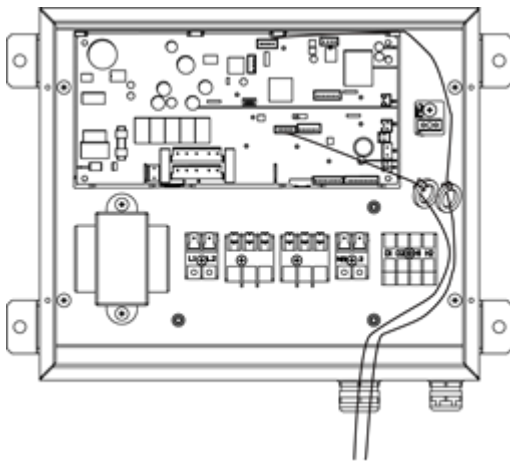
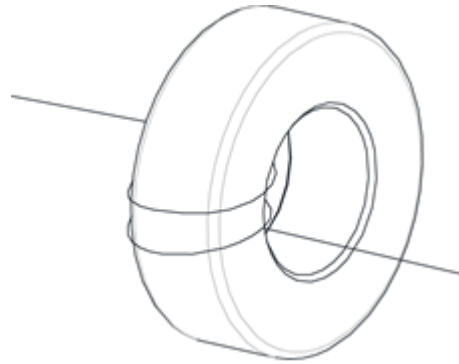

Fig.4.2.2
Fig.4.2.3
(1) Making the cable terminal through the Cable-Cross Loop (Fig.4.2.2), and then winding the cable on the magnetic ring for three times(Fig.4.2.3), at last inserting the terminal into a corresponding slot(see circuit diagram).
(2) Using bundles to fix the magnetic ring is required. It's also need to insert the bundle into